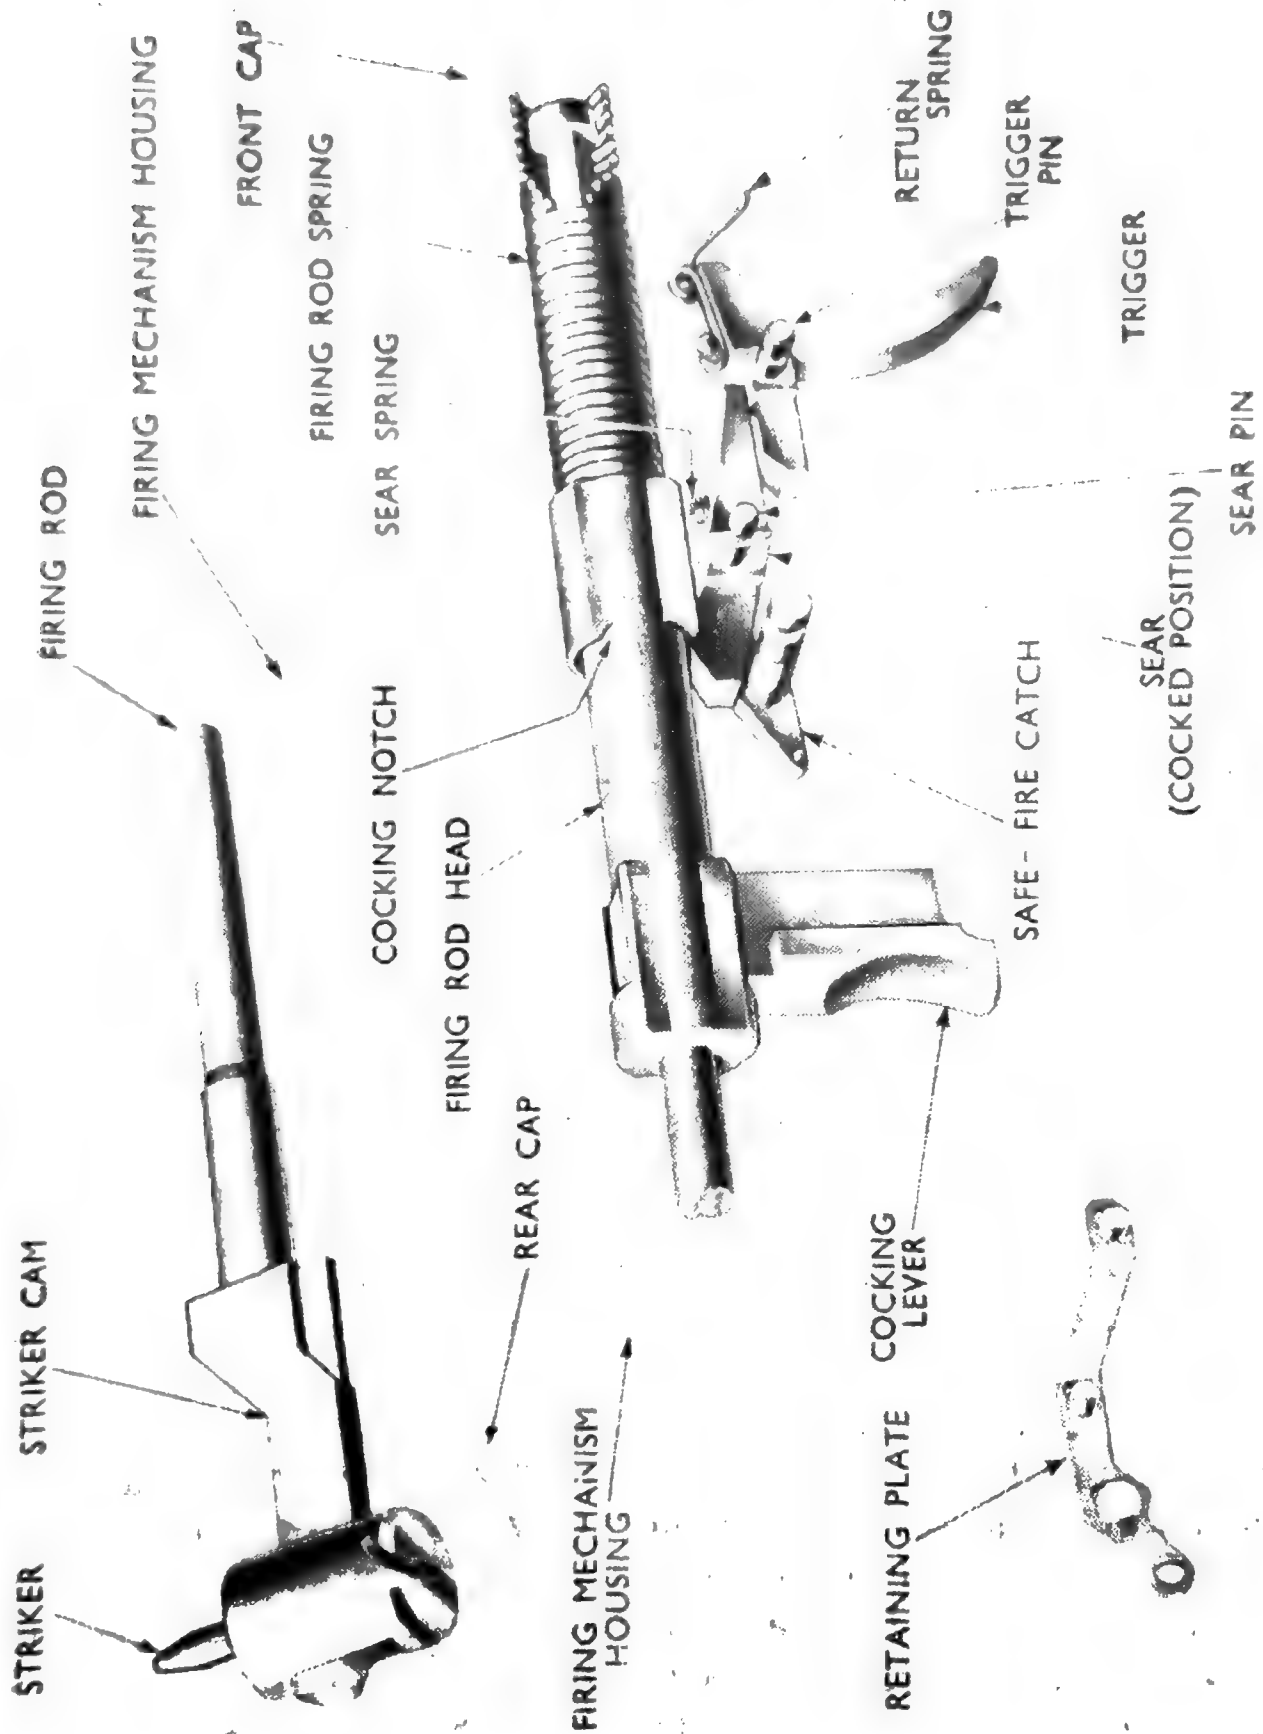

Fig 9 Firing Mechanism
20. *Firing Mechanism.* The percussion type firing mechanism (Fig 9) is assembled on the right side of the barrel. It is contained in the firing mechanism housing, the forward portion of which houses the trigger, trigger sear and safe-fire catch, and also has a trigger guard and tubular fitting for the firing grip. Welded to the rear end, and at right angles to the tube, is the firing pin housing. Two T-slots and two lugs, drilled for securing screws, provide the means of attaching the firing mechanism to the barrel. Details of the firing mechanism are: